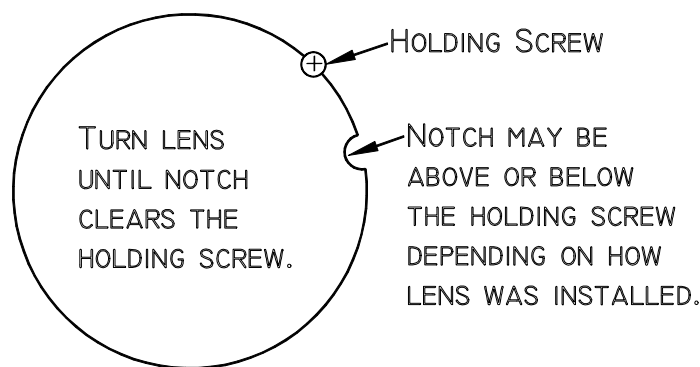

Figure 4-16. Projection Lens holding screw and removal notch.
3. Loosen (do not remove) the Lens holding screw at the right side (*Figure 4-16*) of the Projection Lens.
the holding screw on the lens holder (Figure 4-16).